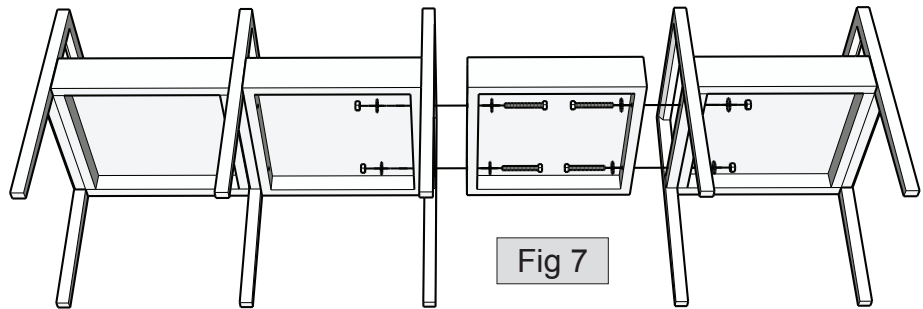

Fig 7
2. Connect center seat cushion to left and right seat frames using 5" bolts, washers and nuts, as shown in figure 7. Once all bolts are started, tighten securely.